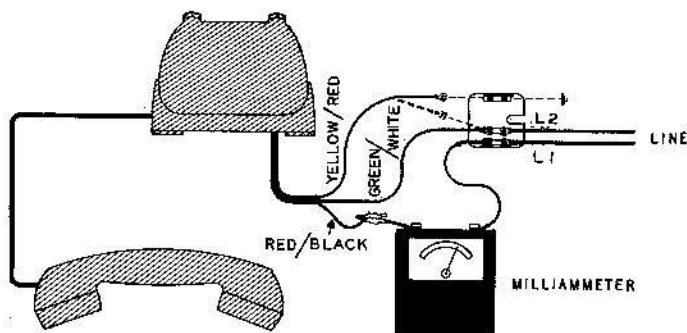

Figure 23.
13.2 **Without assistance from the central office.** Loosen the connecting-block cover-screw, remove the connecting-block cover, and disconnect the telephone red/black lead. Per figure 23, connect a milliammeter between the telephone red/black lead and connecting-block terminal L1 so that the milliammeter is in series with the line. Take the handset off cradle, and vary the loop compensation until the milliammeter reads 60 milliamperes.